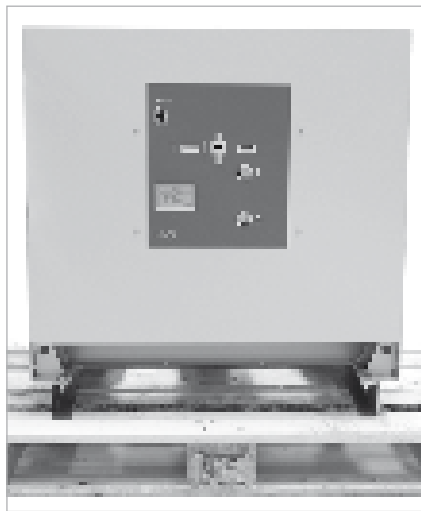

Fig. 8
- fastened to the pallet using steel beams for transport and packed in PE protective film (only 36 kV version) (Fig. 8) or